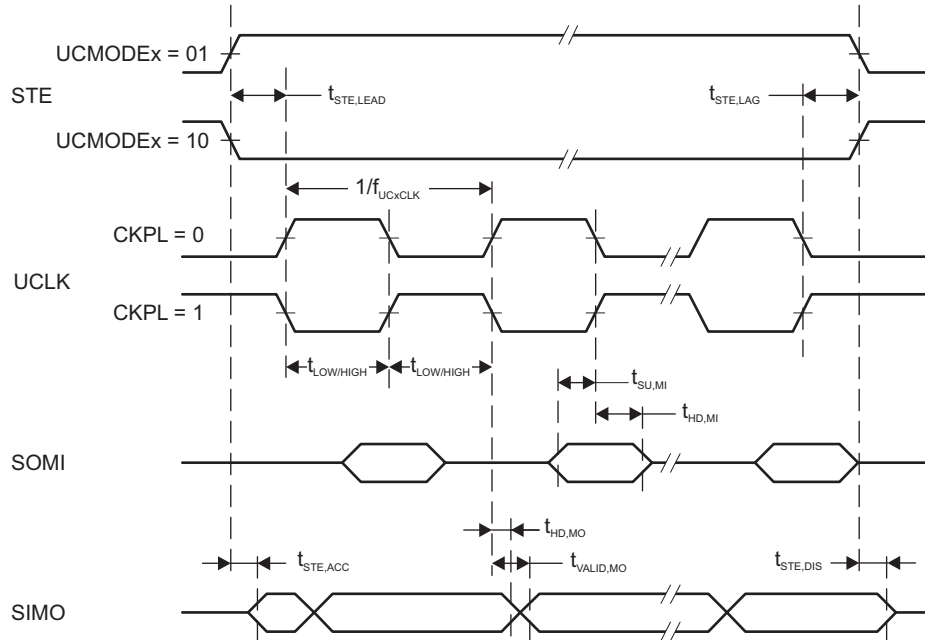
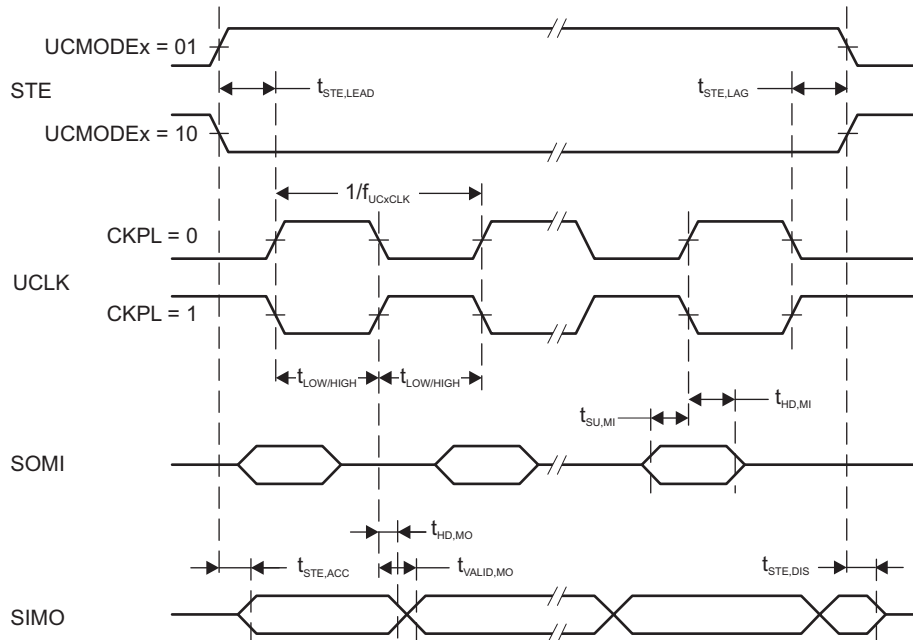

Figure 5-14. SPI Master Mode, CKPH = 0
Figure 5-15. SPI Master Mode, CKPH = 1
- (1) $f_{UCxCLK} = 1 / 2t_{LO/Hi}$ with $t_{LO/Hi} = \max(t_{VALID,MO}(eUSCI) + t_{SU,SI}(Slave), t_{SU,MI}(eUSCI) + t_{VALID,SO}(Slave))$. For the slave parameters $t_{SU,SI}(Slave)$ and $t_{VALID,SO}(Slave)$, see the SPI parameters of the attached slave.
- (2) Specifies the time to drive the next valid data to the SIMO output after the output changing UCLK clock edge. See the timing diagrams in Figure 5-14 and Figure 5-15.
- (3) Specifies how long data on the SIMO output is valid after the output changing UCLK clock edge. Negative values indicate that the data on the SIMO output can become invalid before the output changing clock edge observed on UCLK. See the timing diagrams in Figure 5-14 and Figure 5-15.